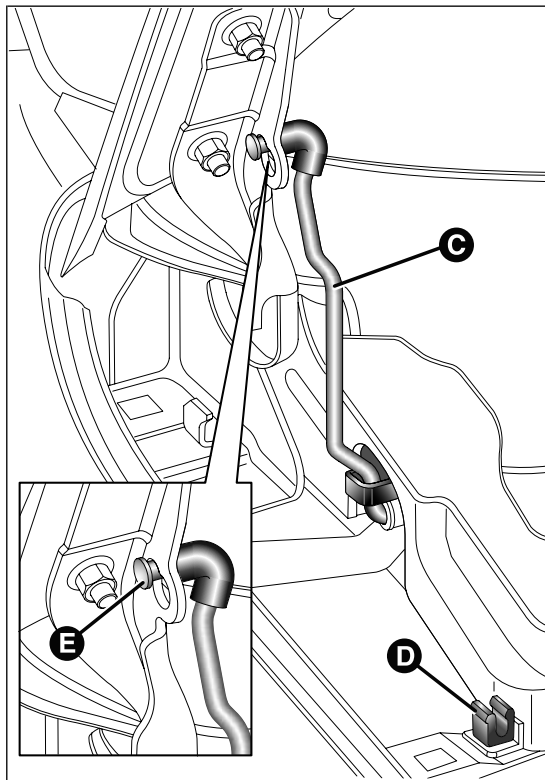

fig. 63
- ☐ lift the bonnet and, at the same time, release the supporting rod C fig. 63 from its catch D, then insert the end of the rod into housing E in the bonnet (larger hole) and push to safety position (smaller hole), as shown in the figure.
- keep the bonnet raised with one hand and remove rod C fig. 63 from housing E with the other, inverting the opening motion, then fit it back into its catch D;